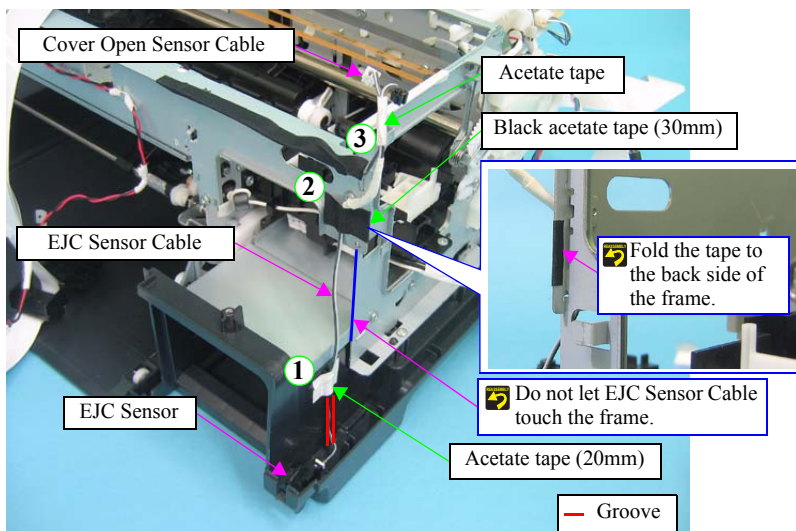

Figure 4-247. Removing the EJC Sensor (1)
- Route it through the groove on the Lower Housing, and secure it with acetate tape (1). (See Figure.4-247.)
- Secure it to the Main Frame with acetate tape (2). (See Figure.4-247.)